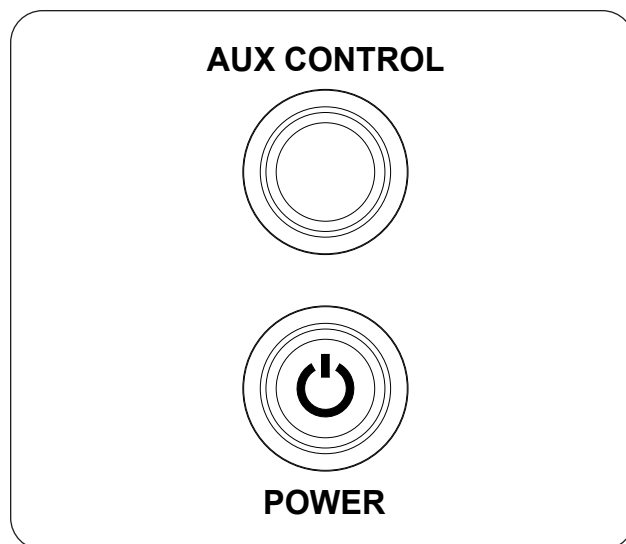

Fig. 33-1 Manual Operation:
1. Locate the **POWER** button on the control panel, and push it (see Fig. 33-1). The light will illuminate indicating the system is on and ready.
2. Locate the **AUX CONTROL** button on the control panel, and push it (see Fig. 33-1). The light will illuminate and the burner ignition sequence will begin.
To shut down the burner (system will remain on), push the **AUX CONTROL** button (see Fig. 33-1).
To shut down the burner and system (total shutdown), push the **POWER** button (see Fig. 33-1).